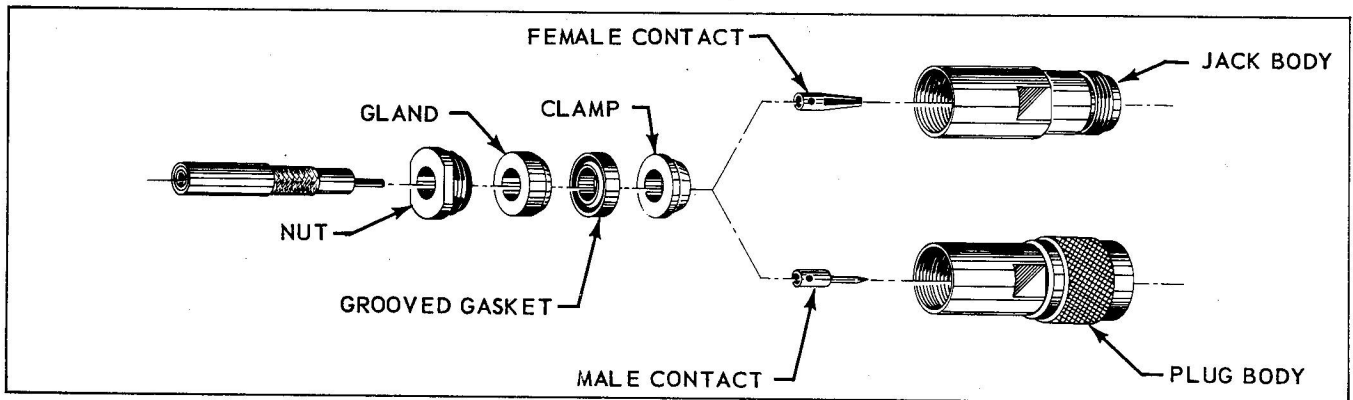
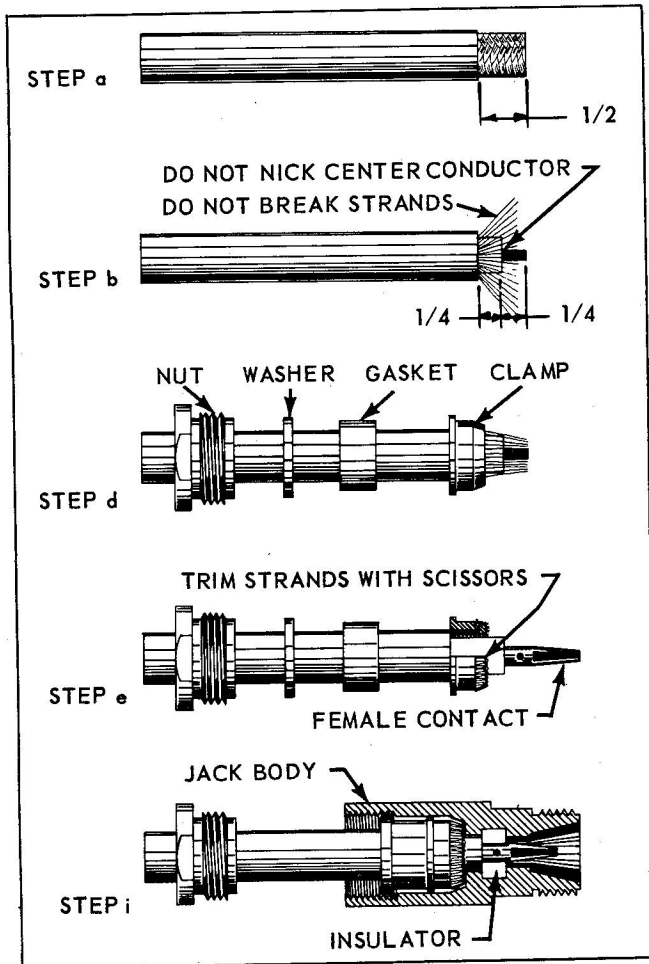

Figure 4-28. Air Force Version N Connectors - Exploded View
Figure 4-30. Attaching Standard N Connectors to Coaxial Cable
b. Air Force Version (See Figure 4-28) - consists of a body assembled to coaxial cable with nut, gland, grooved gasket and clamp. Plug UG-21C/U and Jack UG-23C/U are typical of this version. These differ from the standard version in the shape of the grooved gasket. The gland has a sharp face which cuts into the grooved gasket and thus makes a tight seal.
4-40. ATTACHING STANDARD N CONNECTORS TO COAXIAL CABLE. When attaching standard N connectors to coaxial cable (see Figure 4-30), follow this procedure:
4-41. ATTACHING AIR FORCE N CONNECTORS TO COAXIAL CABLE. When attaching Air Force N connectors to coaxial cable, follow the procedure described in paragraph 4-40 and in Figure 4-30. The stripping dimensions and the assembly sequences are exactly the same as those for Standard N connectors, except that a gland and grooved gasket replace the washer and gasket. See Figure 4-28.